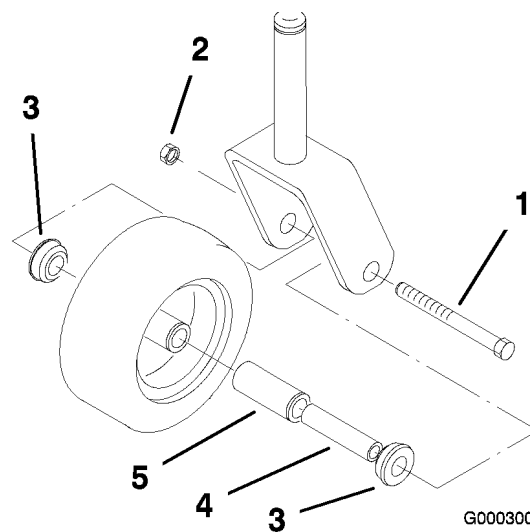

Figure 46
1. Remove the locknut and wheel bolt holding the caster wheel to the caster fork (Figure 46).
2. Remove one bushing, then pull the spanner bushing and roller bearing out of the wheel hub (Figure 46).
3. Remove the other bushing from the wheel hub and clean any grease and dirt from the wheel hub (Figure 46).
4. Inspect the roller bearing, bushings, spanner bushing and inside of the wheel hub for wear. Replace any defective or worn parts (Figure 46).
5. To assemble, place one bushing into the wheel hub. Grease the roller bearing and spanner bushing and slide them into the wheel hub. Place the second bushing into the wheel hub (Figure 46).
6. Install the caster wheel into the caster fork and secure with the wheel bolt and locknut. Tighten the locknut until the spanner bushing bottoms against the inside of the caster forks (Figure 46).